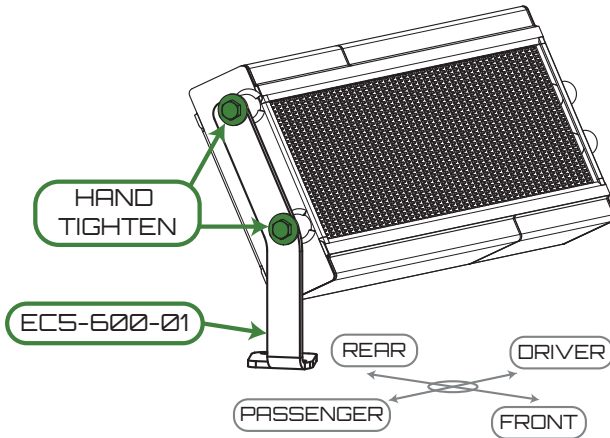

Figure 4 - Loosely Assembling the Passenger Bracket
10. Fasten EC5-600-01 to MHX-245C using two HWA-1005 and HSC-1010 from the EC5-600-60 Hardware Kit as shown in Figure 4.